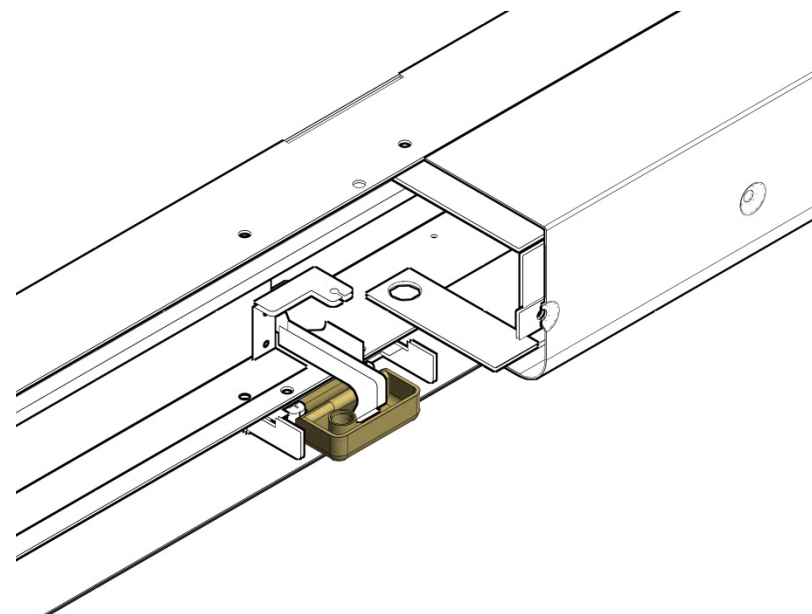

Figure 4-2
4. In closed position, the strikers must engage with the closing hooks (Figure 4-2); remove headbar covers to better see the engagement.